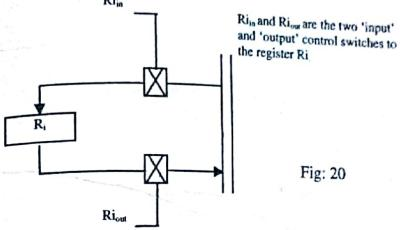

Fig: 20
Consider figure 20. Suppose the contents of register R0 are to be transferred to register Y. The steps are:
- Setting  $Y_{in}$  to 1 enables the input of register Y. This loads the data from the processor bus into the register Y. The figure 20, below shows the above two steps. The 'in' and 'out' in any of the registers is controlled by two switches one at the 'input' end and the other at the 'output' end.